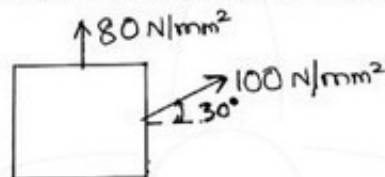

Fig.Q3(c)
- At a point in a strained material, the state of stresses is as shown in Fig.Q3(c), Determine the principal stresses, maximum shear stress and sketch the orientation of the principal planes.